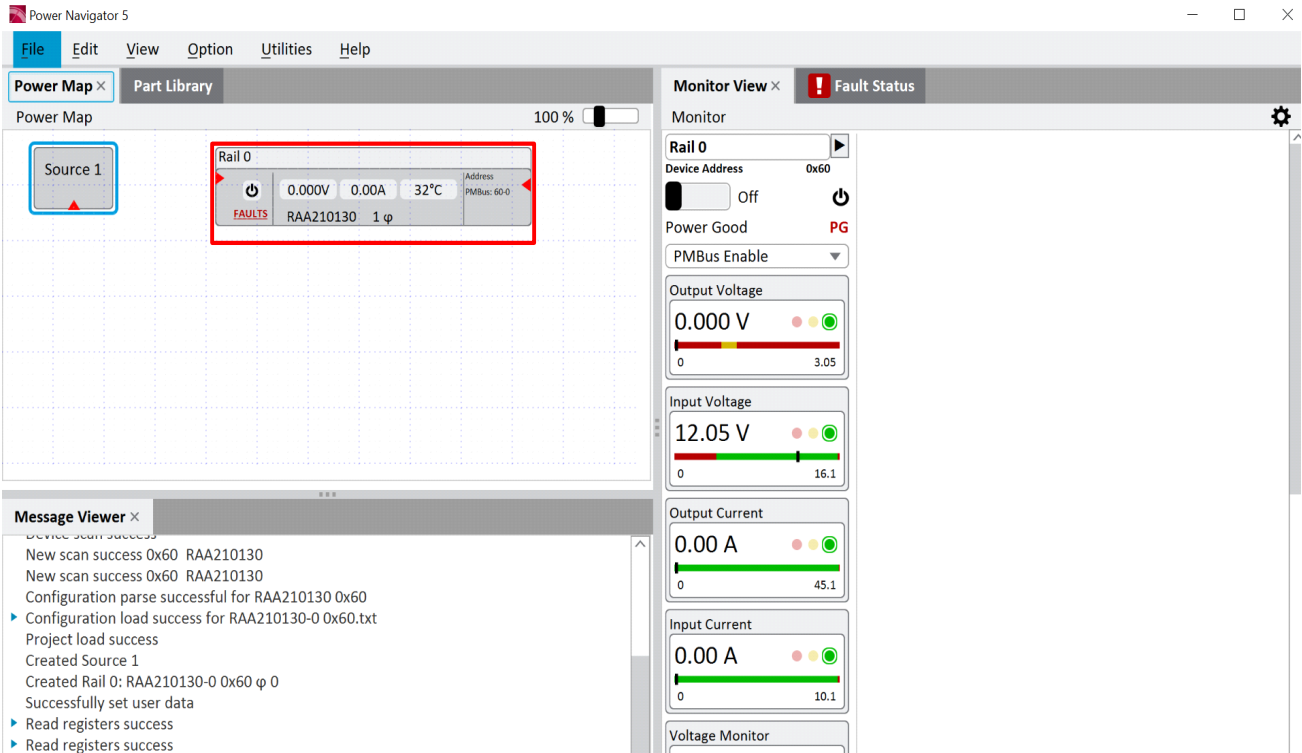
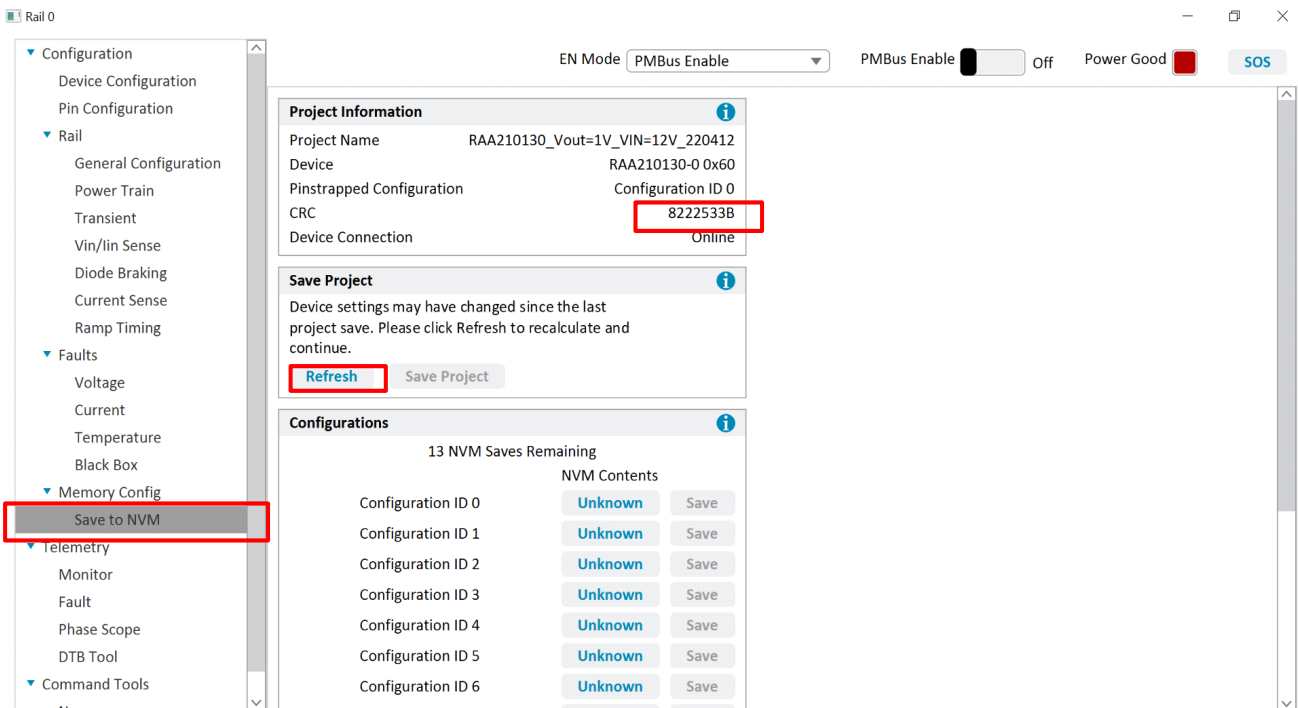

Figure 4. Power Navigator Main Page Double-Click on Rail 0 Indicated by the Red Box
Figure 5. Configurations Page
9. The Power Navigator main page opens up. Double click **Rail 0** on the **Power Map** section as indicated in **Figure 4**. A configurations window opens up as shown in **Figure 5**.